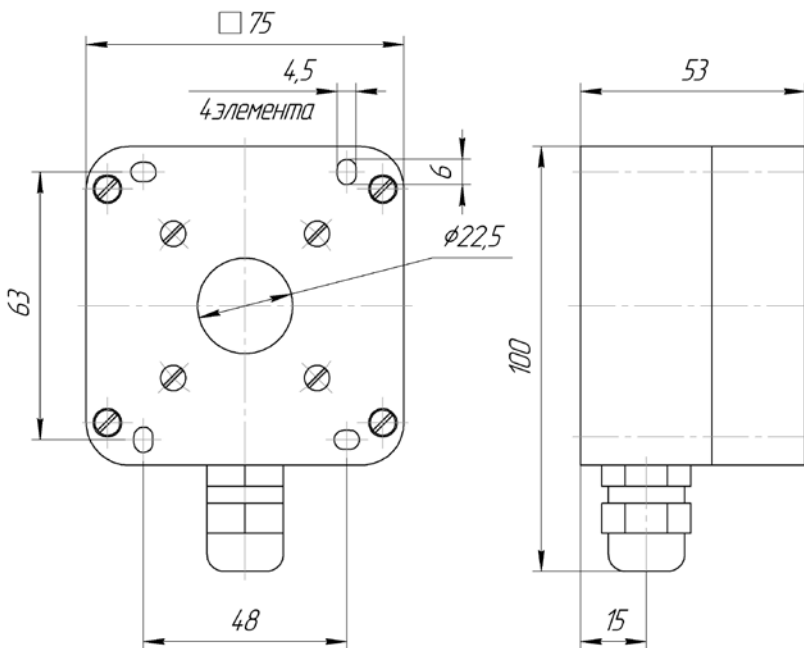

Fig. 2. UFD-IP65 dimensions.
7.1. UV flame detector dimensions are given in the Figure 2.
7.2. To carry out the connecting of the detector according to the connection diagram in the Figure 2.